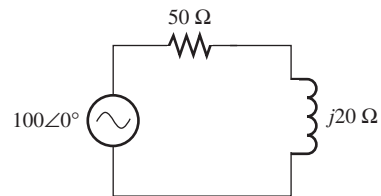

FIGURE P6.63 Circuit for Problem 6.63.
- 6.63** (H) Find the complex power taken from the source for the circuit shown in Figure P6.63.